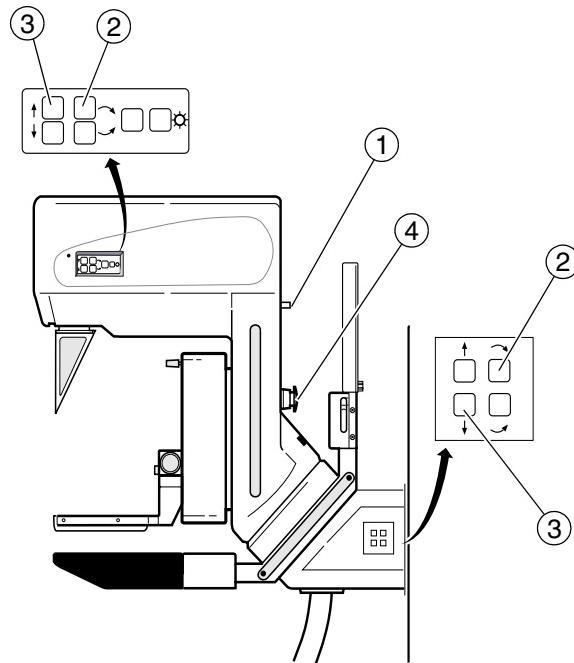

Fig. 6 Swivel arm system
4. Set the projection angle set to minimum with presetting knob (No. 1/Fig. 6).
5. Check the rotary motion of the swivel arm system by pressing buttons (2/Fig. 6) one by one.
1. Set the projection angle to **60 degrees** with the presetting knob (1/Fig. 6).
2. Press one of the buttons (2/Fig. 6).
All eight rotary motion buttons (four on either side 2/Fig. 6) must be checked. After the button has been released, the swivel arm system should remain in the position set.
2. Set the projection angle to minimum with presetting knob (No. 1/Fig. 6).
3. Check the rotary motion of the swivel arm system by pressing the buttons (No. 2/Fig. 6) one by one.
1. Press the buttons for upward and downward movement (3/Fig. 6) of the swivel arm system.
All eight vertical adjustment buttons (four on either side 3/Fig. 6) must be checked. The switching off in upper and lower end position is effected by switches S881 and S884 respectively.
1. Press the emergency stop button (4/Fig. 6).